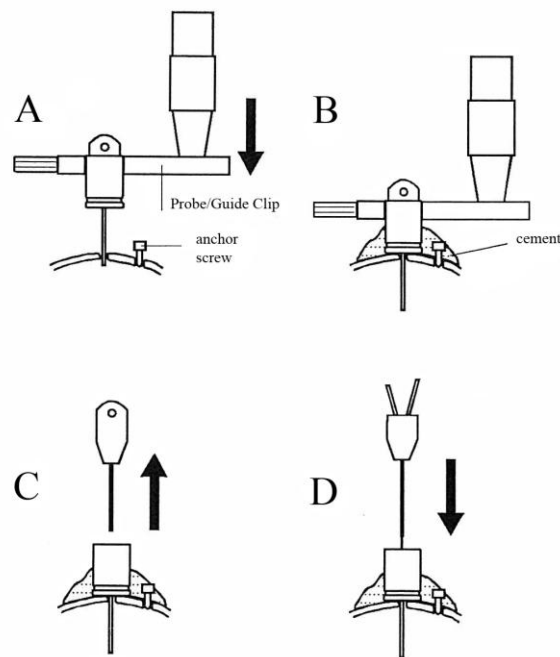
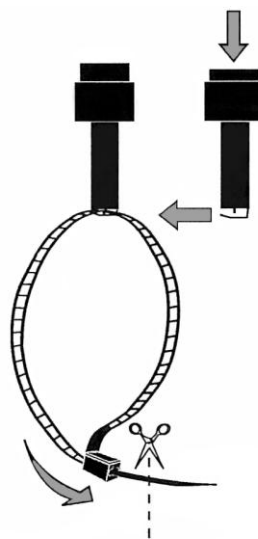

Figure 11. Implantation of the CMA 11 or CMA 12 Guide Cannula (from side).
Figure 13. Collar with Clip
1. Mount the guide cannula in the CMA 11 + 12 Clip and fix the clip to the Connecting Rod. See figure 11.
6. Cement around the guide and the anchor screws, see figure 11. Use a type of cement that cures without producing heat which can damage the skull and the underlying cortex. Suture the skin above the cement. Fix the special collar around the neck of the animal, see figure 13.
3. While holding the animal, attach the steel wire to the collar around the neck of the animal using the clip, see figure 13 and 19.